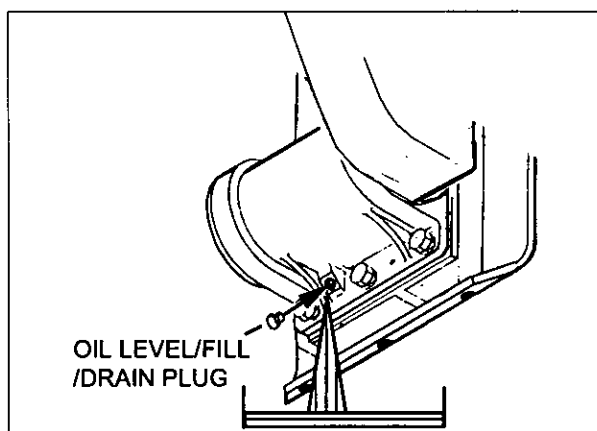

Figure 12-1 - Eccentric Housing Oil change.
2. Drain completely by position the machine with the drain port at lowest point, refer Figure 12-1.